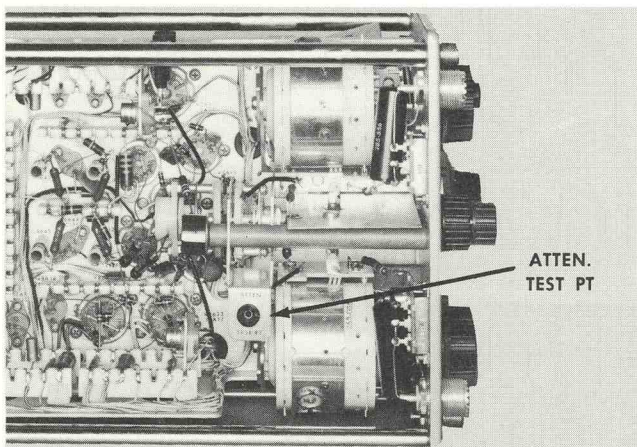

Fig. 2-6. Left side view of the Z Unit showing the location of the ATTEN TEST PT.
3. Remove the left side panel from the oscilloscope. Connect a test lead from the A input connector to the ATTEN TEST PT connector (see Fig. 2-6).
3. Remove the left side panel of the oscilloscope. Connect one end of R2 to the A input connector and the other end to the ATTEN TEST PT (see Fig. 2-6) by using a jumper wire.